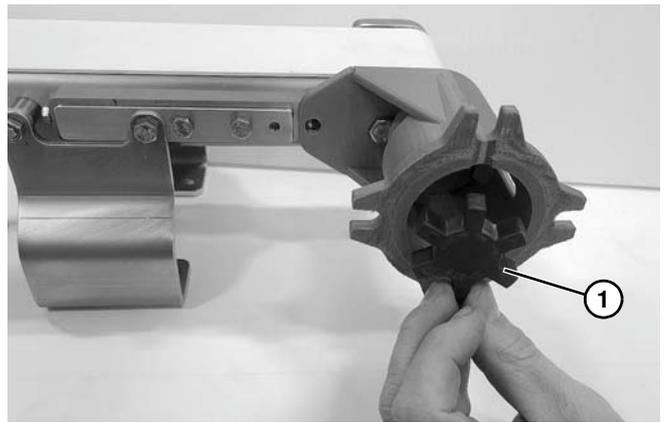

Figure 12
3. Insert spider (Figure 12, item 1) into 3 jaw coupling.